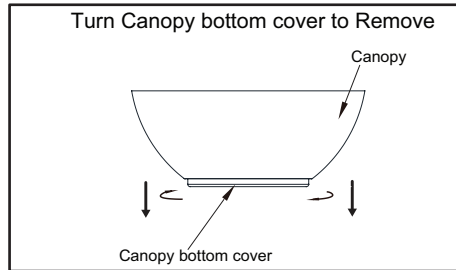

Figure 5
1. Remove the canopy bottom cover from the canopy by turning the canopy bottom cover counter-clockwise until it unlocks. (Figure 5)